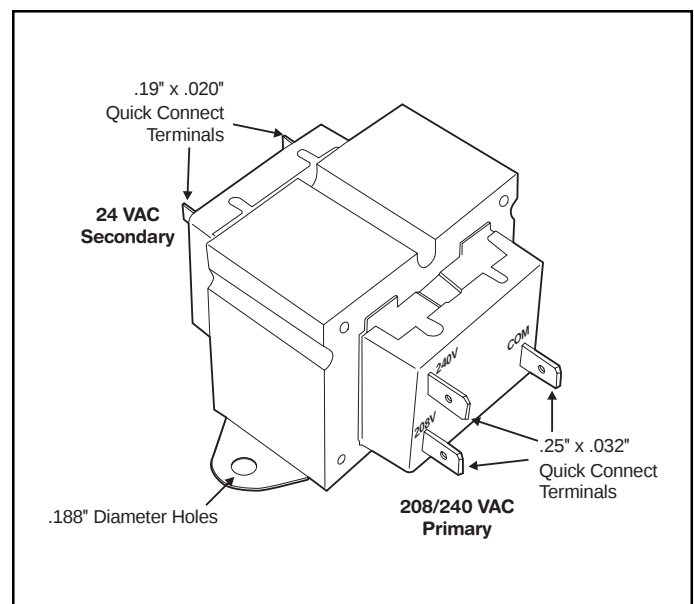

Figure 2
- 2. Incorrect transformer connections** - Power supply to the unit is rated at 208-230 volts. The low voltage transformer contains two tap locations (208- and 240-volt) for the varied input voltages (see Figure 2). We have found cases where a power supply of 208 was present with the transformer tap connected to the 240-volt terminal. The transformer primary connection points should be checked and set for the proper voltage coming in to the unit.